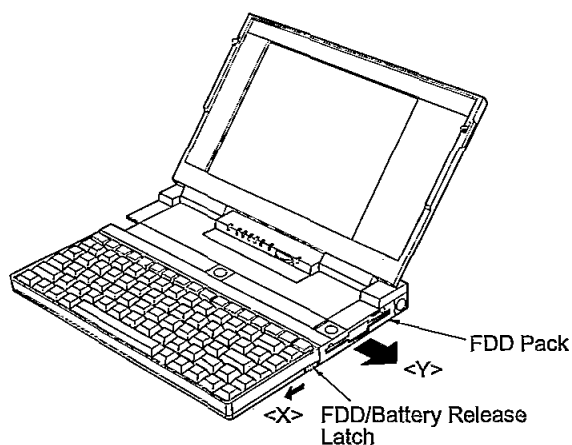

Figure 2
1. While sliding the FDD/Battery Release Latch in the direction of the arrow <X>, pull out the FDD pack in the direction of the arrow <Y> as shown in Figure 2.